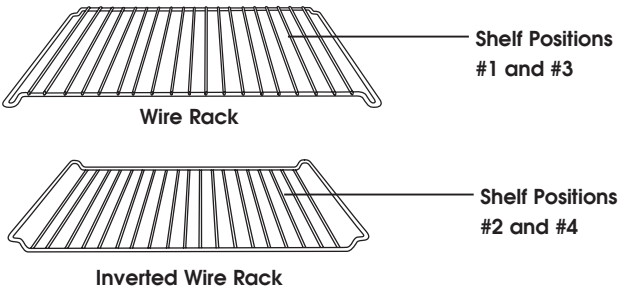

Figure 4
6. Place bagels to be toasted on the Wire Rack in Shelf Position #2 or #3 (see Figure 4). Place cut side up.
7. Wearing protective oven mitts, open the Glass Door. Carefully place the Wire Rack in Shelf Position #2, #3, or #4 (see Figure 4) depending on the height of the pan and food or recipe directions. Use the Bake/Broil Pan or an appropriate baking container. If you would like your food browned top and bottom, place food directly on Rack and close Glass Door. Bake according to package or recipe time.